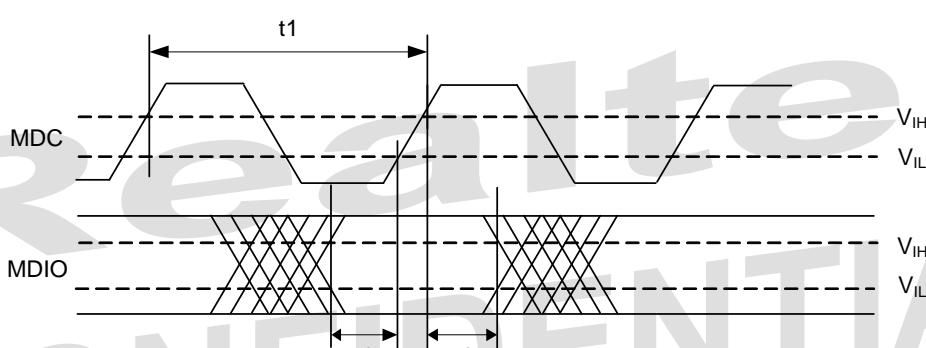

Figure 17. MDIO Sourced by Master (MAC)
- The timing characteristics t1, t2, and t3 (Figure 17) of the Master (MAC) are provided by the Master when the Master sources the MDIO signal (Write command)